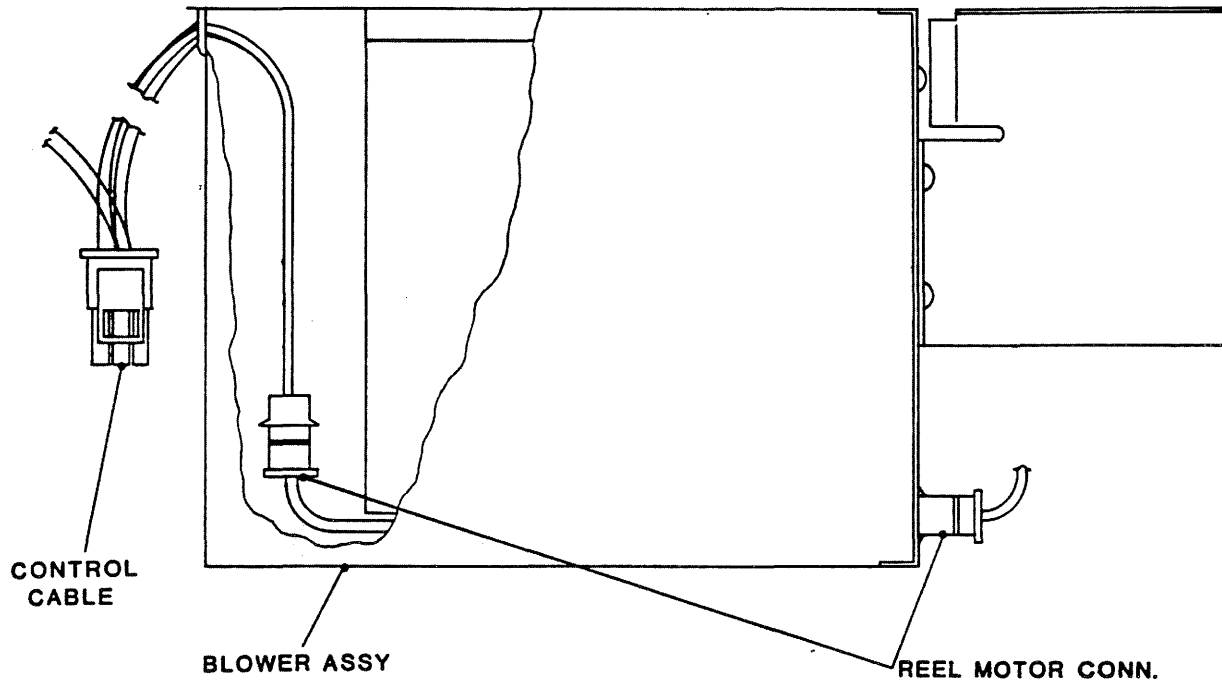

Figure 4-15 Blower Assembly
**4.3.17 BLOWER ASSEMBLY (Fig. 4-15)**